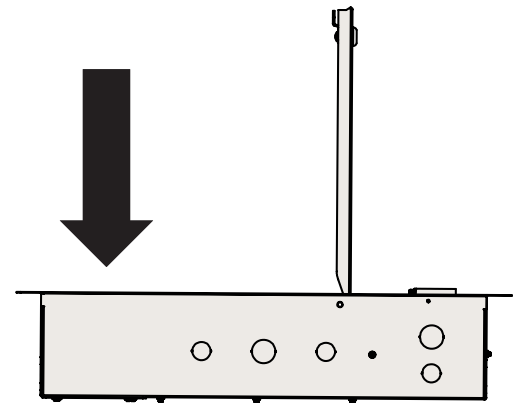

Figure 1
- 2) Push the lid in and away from the metal hinges (Figure 1).